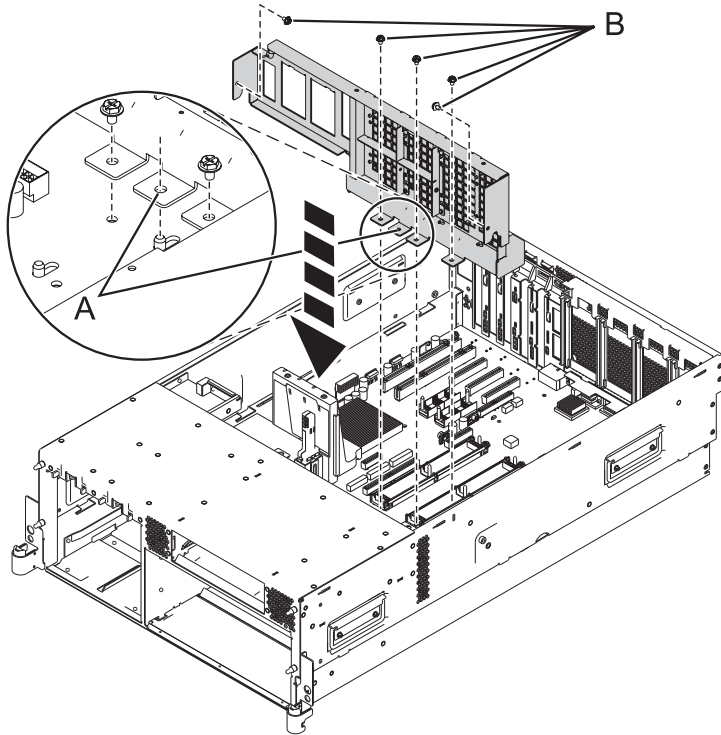

Figure 11. Installing the front processor support
- a. Align the pin hole (**A**) on the front processor support with the chassis guide pin on the system backplane. See Figure 11 on page 16.